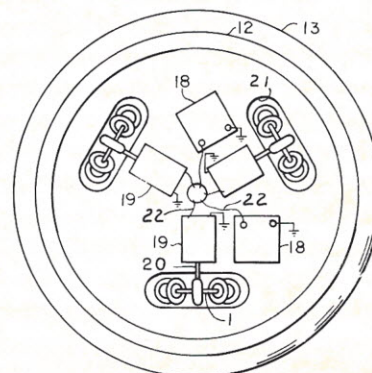

Figure 5: A bottom view of the bumper car with the drive motors, battery, and controls shown schematically.
The drive motors (19) are shown schematically in figure 5. Each wheel is mounted